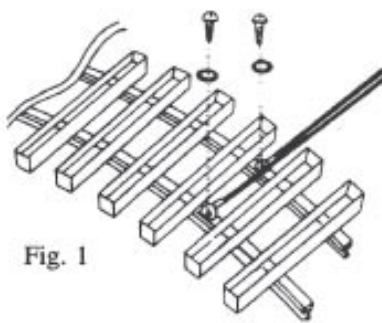

Fig. 1
1. All ARISTO-CRAFT curved and straight track sections have four (4) screws in the bottom which secure the rail to the ties. In order to convert an ordinary section of track into a "Terminal Track" which conducts electric power to the rails, merely remove both screws at one end, insert the screws through the eyes of the TRACK TO PACK CONNECTOR WIRE and reattach the screws (See Fig. 1).